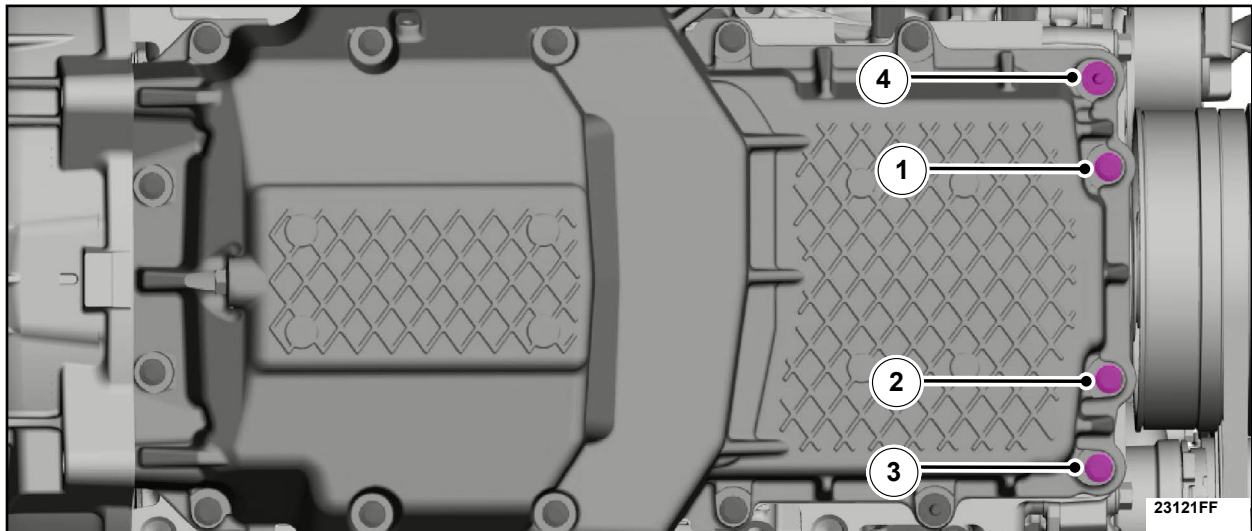

FIGURE 42
25. Install the four oil pan to engine front cover fasteners. See Figure 42.